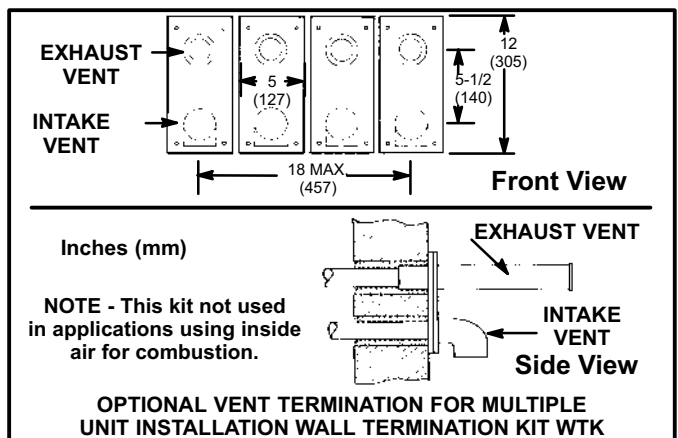

FIGURE 33
- 14- Based on the recommendation of the manufacturer, a multiple furnace installation may use a group of up to four termination kits WTK assembled together horizontally, as shown in figure 33.